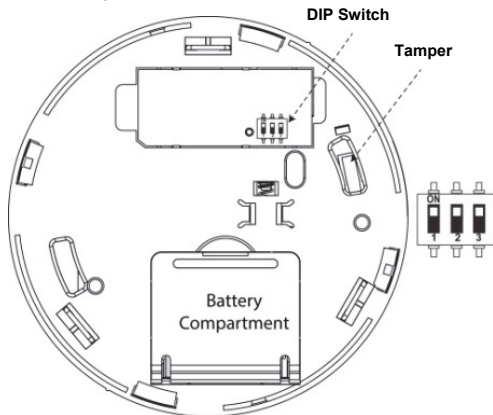

Figure 8: Unit backside: batteries compartment, tamper and DIP switch
- ◆ Dead-air spaces, which are often at the top of a peaked roof, or in the corners between ceilings and walls. Dead air may prevent smoke from reaching a detector. See Figures 8 and 9 for recommended mounting locations
- Open the battery compartment cover (see Figure 8).